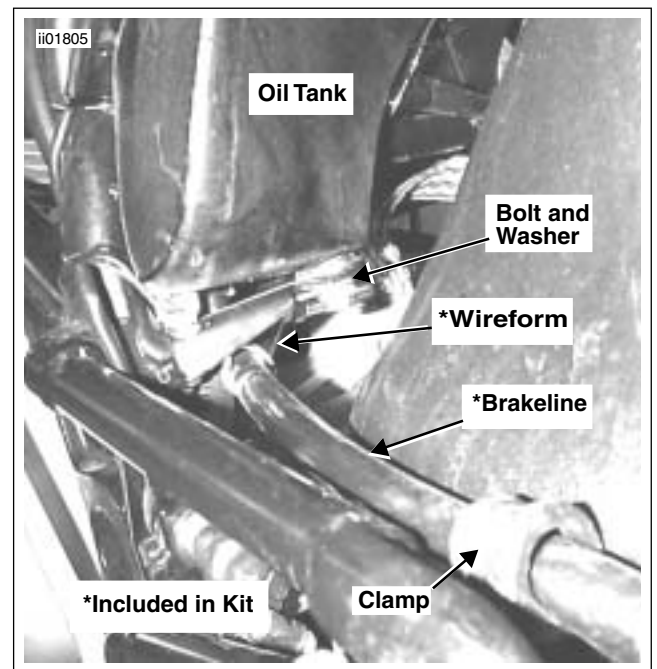

Figure 5. New Wireform and Brake Line
6. See Figures 5 and 6. Install **new** wireform to lower left oil tank tab with original washer and bolt. Washer goes between bolt and wireform.
11. See Figures 5 and 6. Install rear inner fender. See Section 2 of appropriate Service Manual for procedure. Attach brake line to rear inner fender using original clamp and hardware.